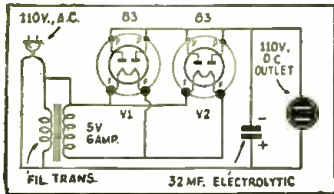

Fig. 1. Shop D.C. power supply.
D.C. POWER SUPPLY FOR SET TESTING. For the benefit of those Service Men who are occasionally called upon to repair 110 V. D.C. receivers and have only A.C. available, we suggest the hookup in Fig. 1. With a 32 mf. condenser at the output as shown, the input A.C. voltage and the output D.C. voltage are the same.
In Fig. 1, our artist has shown the sequence of operation. First the reporter snaps a picture of a wreck, which is then quickly developed, and transmitted over the telephone in the village general store. The reader will easily understand the importance of this rapid system in the dissemination of illustrated news stories.